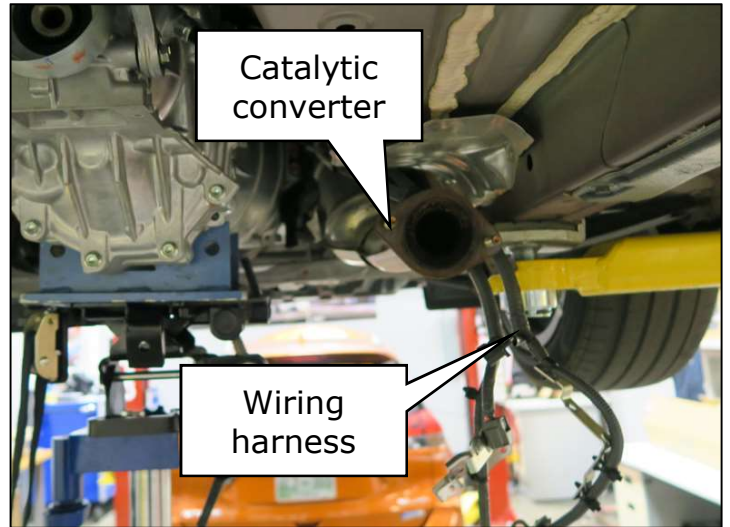

Figure 79
81. Move the wiring harness previously placed over the catalytic converter. (Figure 79)